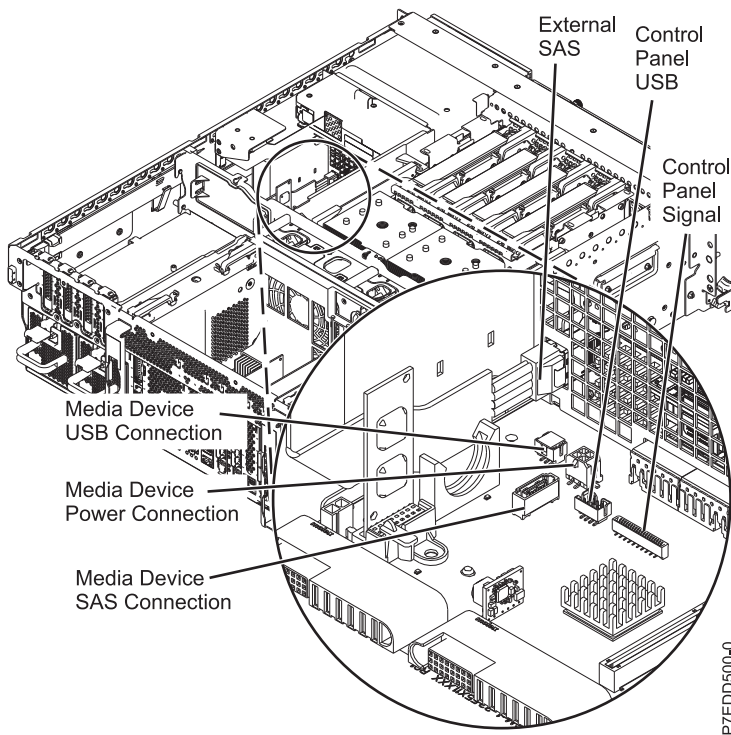

Figure 22. Connecting the internal cables
17. Connect the internal cables to the backplane and replace the SPCN cable to the rear of the chassis. See Figure 22.